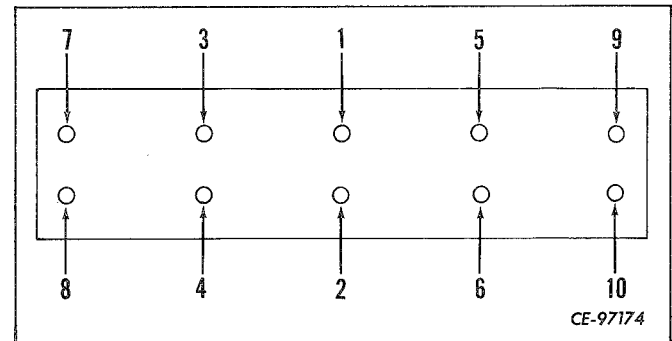

Figure 13-16
- d. Form the rivets heads with the correct rivet set, following the sequence shown in Fig. 13-16.